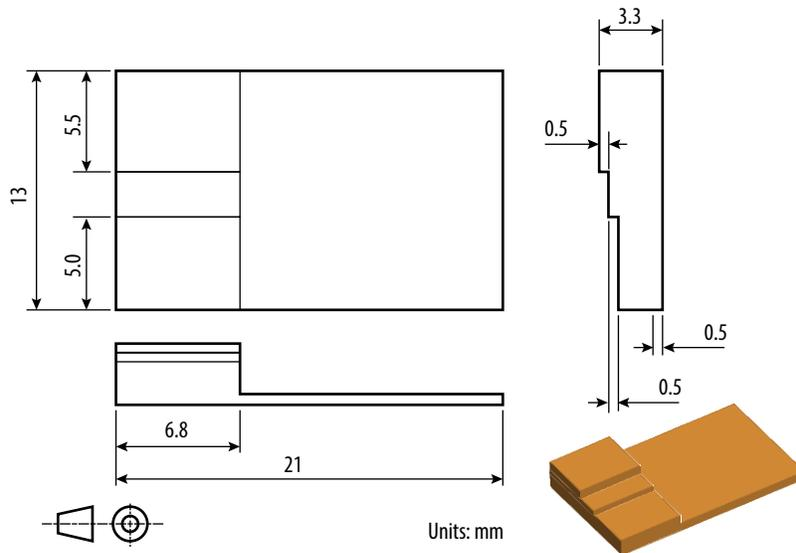

Figure 10: Detailed drawing of the copper heat-spreader used for the EPC9177 demonstration board cooling system
- A custom profile copper heat-spreader, see figure 10
A detailed drawing of the heat-spreader is given in figure 10.